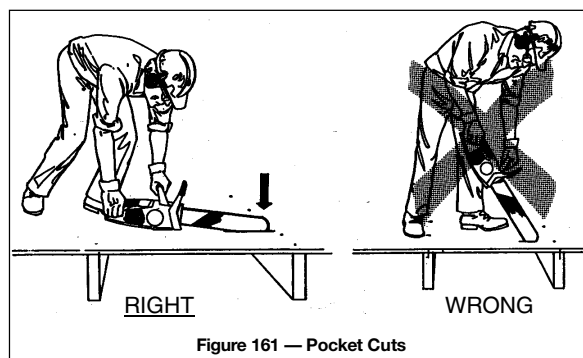

Figure 161 — Pocket Cuts
- Take extra care when making pocket cuts (Figure 161). Start the cut with the underside of the chain tip, then work the saw down and back to avoid contact with the kickback zone. Consider an alternative such as a sabre saw.